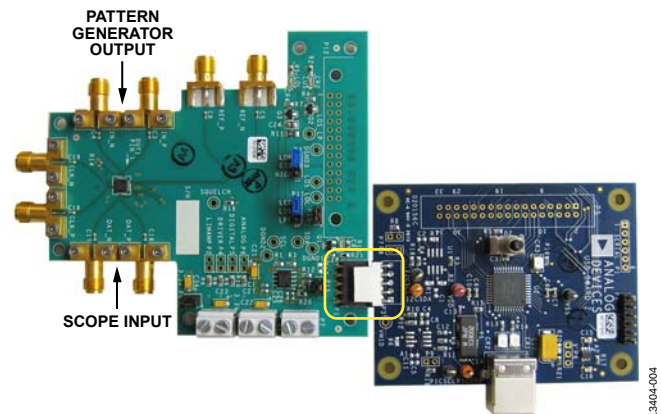

Figure 4. Connect the Evaluation Board and the Adaptor
- Connect P3 of the adaptor board to P1 of the evaluation board directly, as shown in Figure 4 (circled in yellow).
- Connect a pattern generator output to the evaluation board IN_P and IN_N connectors (see Figure 4).
- Connect a scope to the evaluation board DAT_P and DAT_N connectors (see Figure 4).